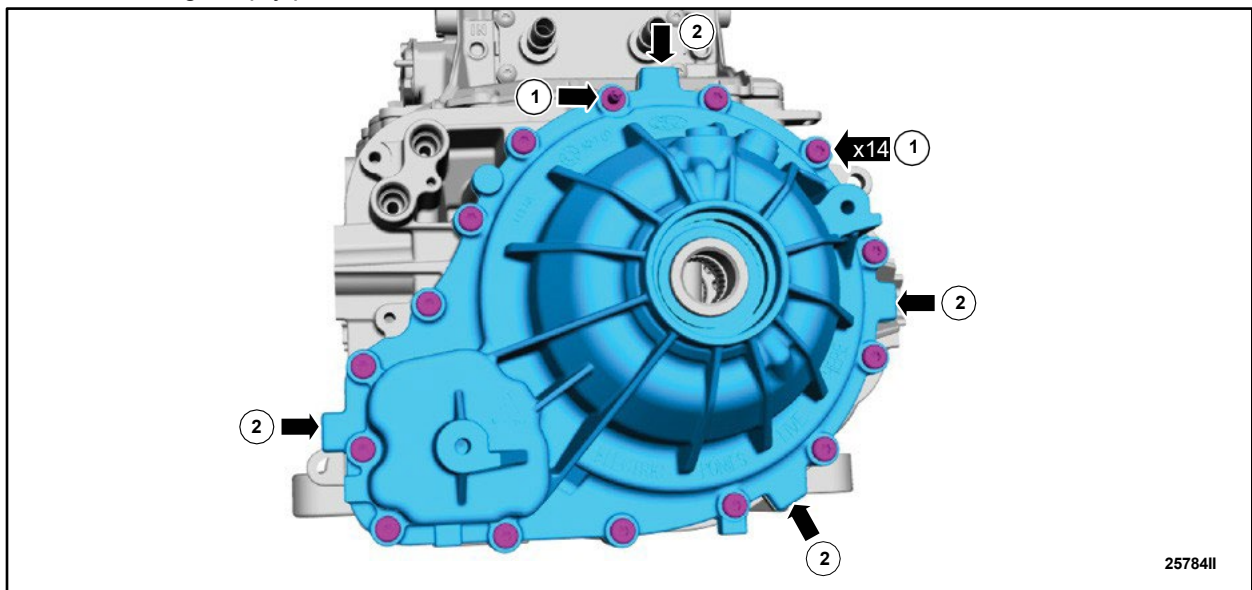

FIGURE 26
31. Perform the following: See Figure 26.